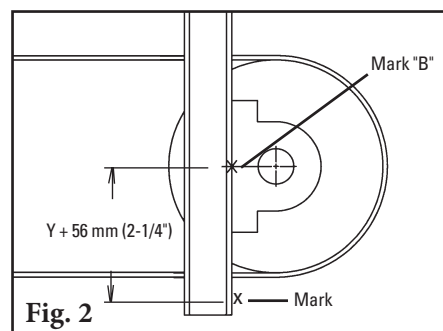

Fig. 2
4. **Measure down the given Y dimension plus 56 mm (2-1/4") and make a mark (Fig. 2).** This mark indicates the top location of support material to be added for installing the cleaner mounting brackets.